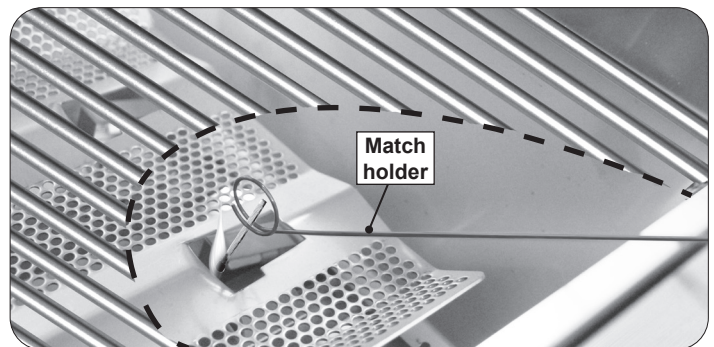

Fig. 31-2 - Manual lighting
**CAUTION:** Always wait five (5) minutes for gas to clear after any unsuccessful lighting attempt.
2. Insert either a burning long-barrel butane lighter or a burning long-stem match through the cooking grid opening to the top of the burner (Fig. 31-2).
4. If the burner does not light within five (5) seconds of turning the control knob, **immediately depress the knob and turn the valve to OFF**. **WAIT FIVE (5) MINUTES** before repeating steps 2 through 4 of the MANUAL LIGHTING instructions.